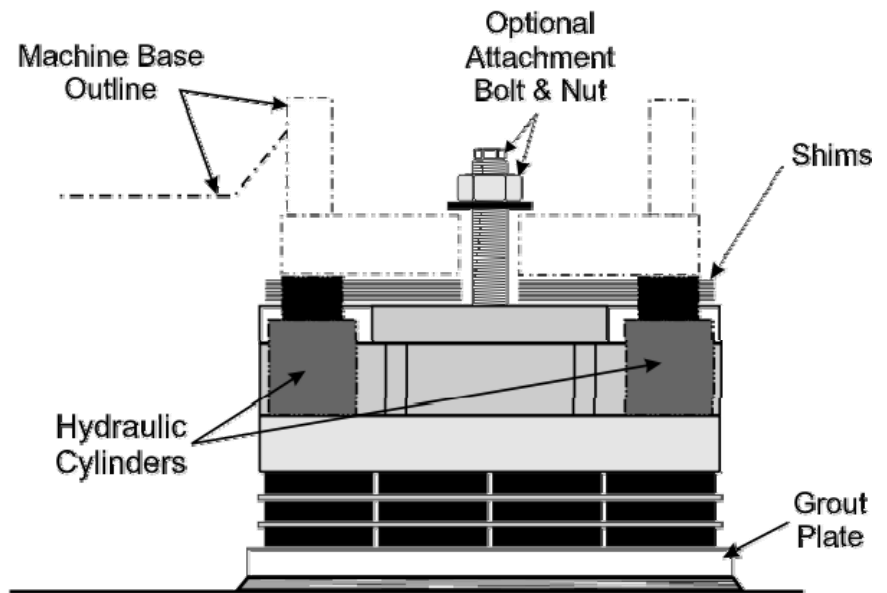

Figure 6
- **MXBP** isolation elements can use external lifting devices or hydraulic cylinders can be placed within the element to raise the machine foot off the element to insert shims. See Figure 6.